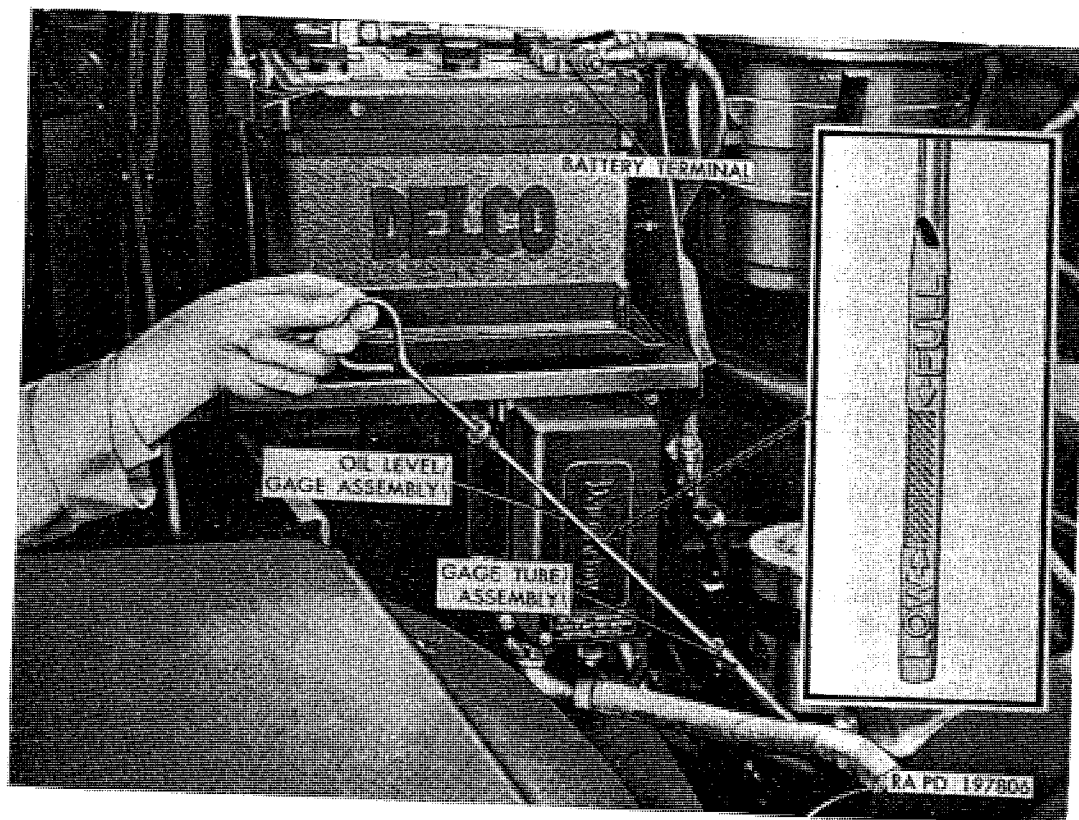

Figure 91. Checking crankcase oil level.
a. General. Engine crankcase is equipped with a bayonet-type oil level gage for use in checking crankcase oil level. Gage is marked FULL and LOW (fig. 91). Plug in oil pan cover (D, fig. 81) is magnetic-type and is removed to drain engine oil from crankcase. Refer to lubrication chart (par. 69) and accompanying notes for type and viscosity of oil to be used in crankcase, as well as intervals for checking and changing oil.
b. Oil Level Gage Tube. If oil level gage tube assembly (fig. 91) is not installed correctly, the gage may strike battery terminal when withdrawn to check crankcase oil level. This causes a short circuit. To prevent short circuit of this nature, make corrections described in (1) and (2) below.
- (1) Loosen the gage tube retaining nut at oil pan; then turn tube to move upper end toward distributor. Tighten tube retaining nut.
- (2) Inspect battery cable terminal; if terminal protrudes over edge of battery, loosen terminal clamp bolt and position so cable will run parallel to battery toward engine.
c. Checking Crankcase Oil Level (fig. 91). Check crankcase oil level when engine is thoroughly warmed up and after engine is stopped. Allow sufficient time after stopping for oil to drain back into oil pan.